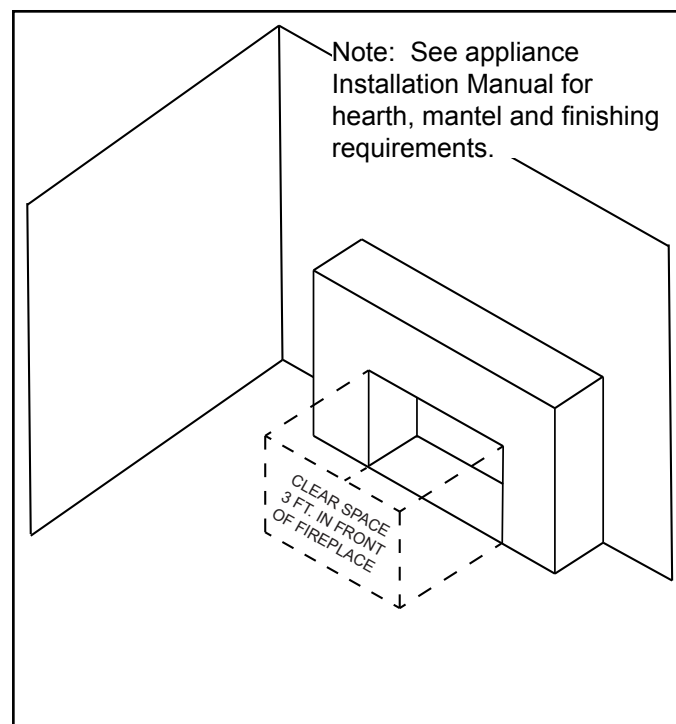

Figure 9.1 Clear Space
**WARNING! DO NOT place combustible objects in front of the fireplace.** High temperatures may start a fire. See Figure 9.1.